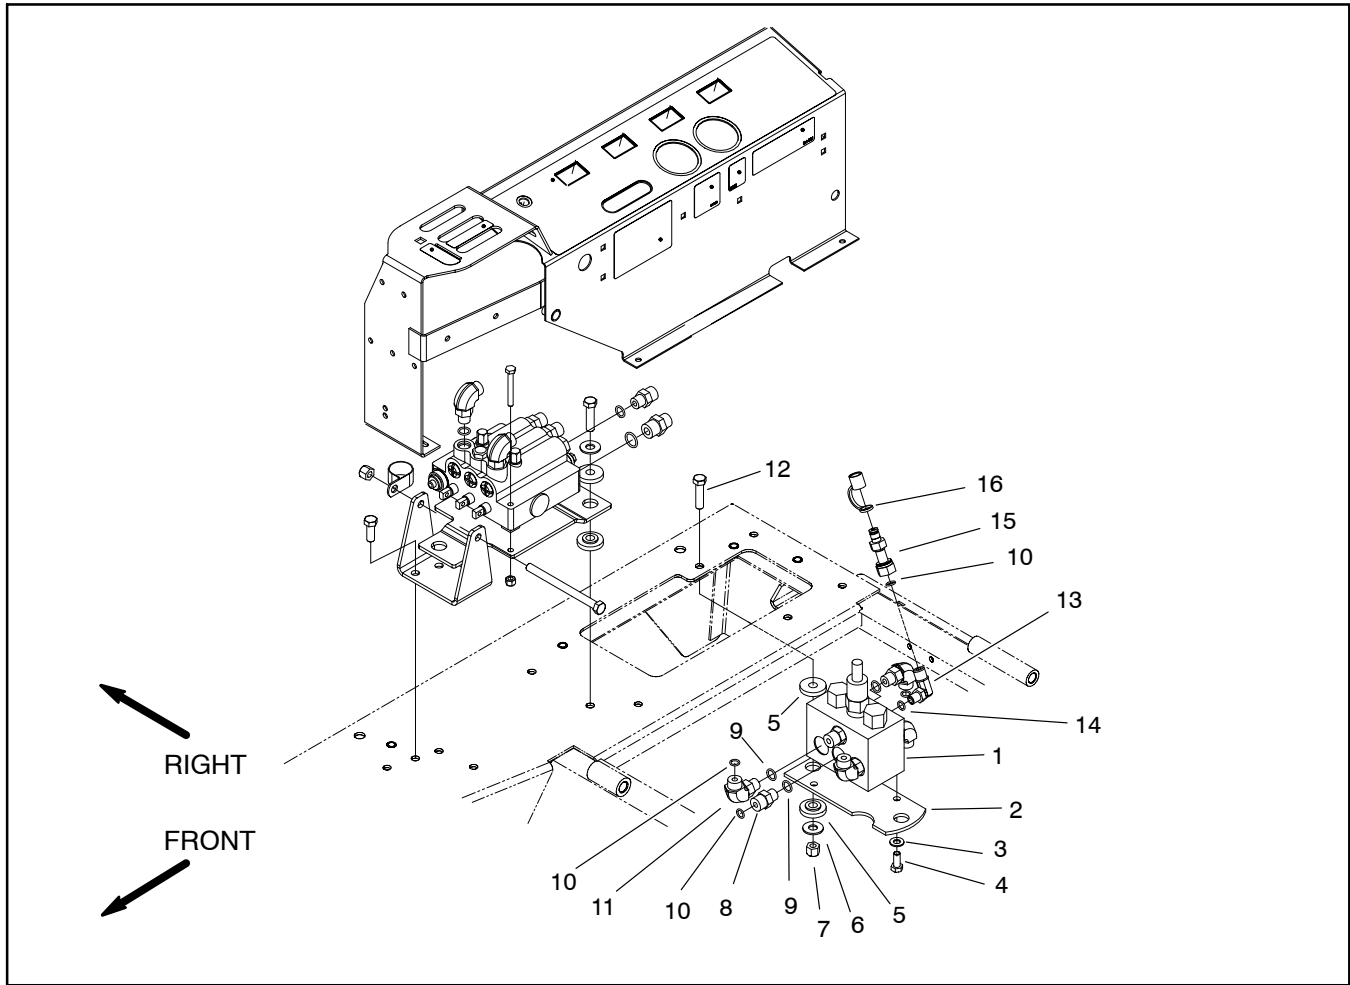

Figure 52
Removal (Fig. 52)
3. Remove hydraulic manifold from the frame using Figure 52 as guide.
Installation (Fig. 52)
1. Install hydraulic manifold to the frame using Figure 52 as guide.